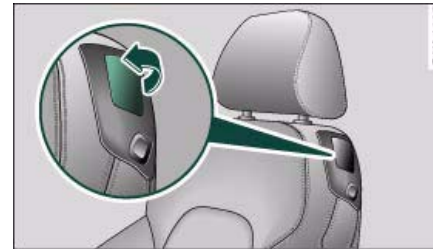

Fig. 73 Driver's seat:
- Pull up the lever ⇒ fig. 73.